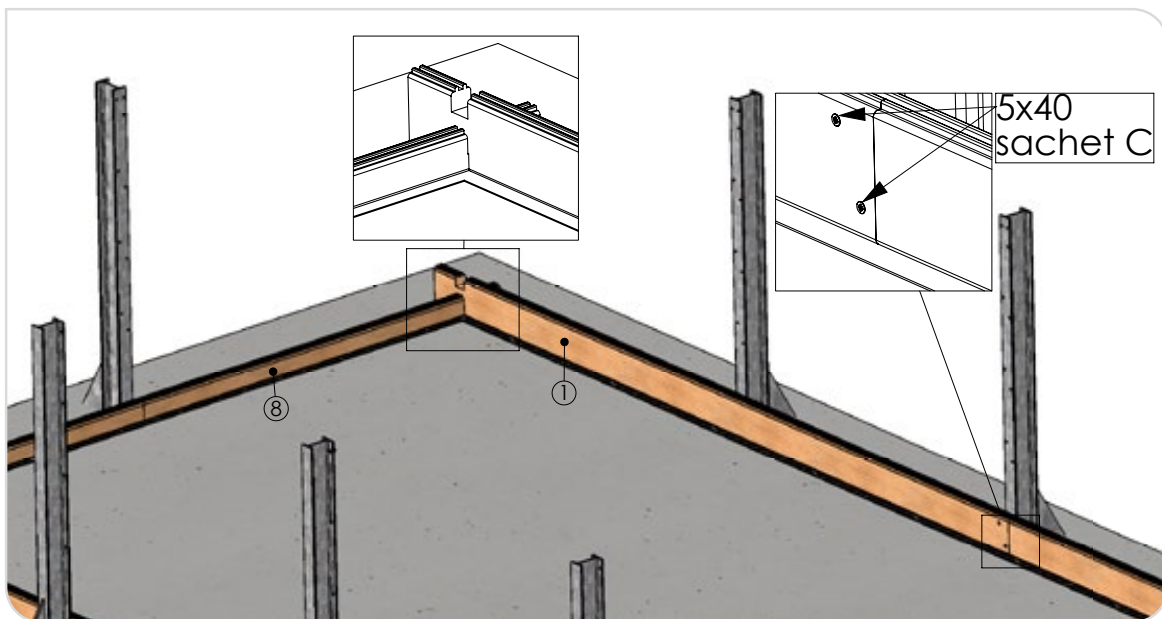

Figure 16 – 1st row of slats
Lay out the ½ slats 'ref. 8' that make up the pool widths, then at the corners fit them into the slats marked '1' that make up the pool lengths (*Figure 16*). After positioning the 1st layer of slats, check that the diagonals are equal. Screw the slats together using screws from bag C as shown in (*Figure 16*). Be careful to remove any splinters as you go.